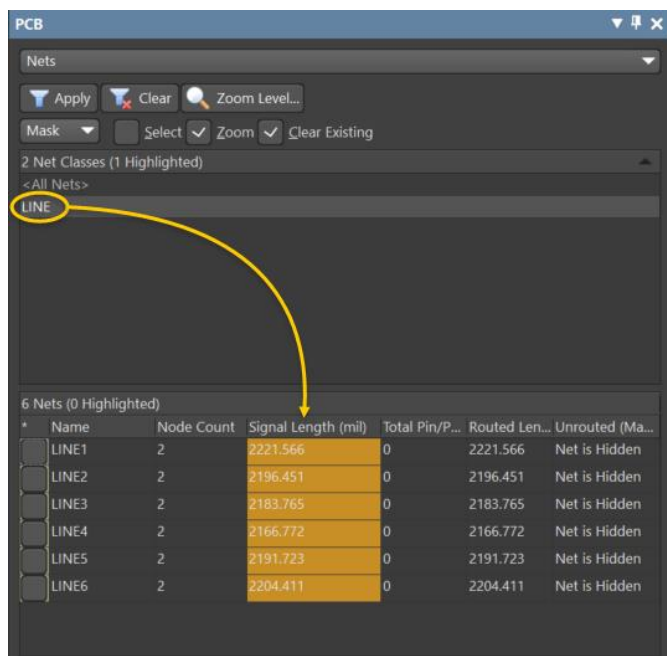

Figure 6. LINE signals and lengths
28. In the *Nets* section, you will see all 6 **LINE** signals, along with their Signal Length as shown in Figure 6. The Signal Lengths are highlighted in orange because they do not meet the desired length that is determined in the design rule.